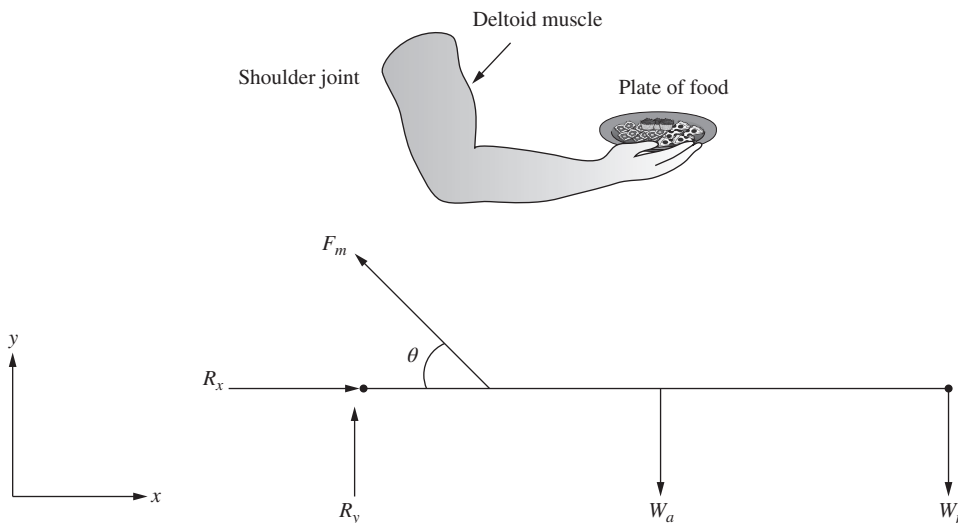

Figure P4.40 Waiter handing a plate to a customer.
4-40. A waiter extends his arm to hand a plate of food to his customer. The free-body diagram is shown in Fig. P4.40, where
- (a) Using the x - y coordinate system shown in Fig. P4.40, write the deltoid muscle force \vec{F}_m , the weight of the arm \vec{W}_a , and the weight of the plate \vec{W}_p in the standard vector notation (i.e., using unit vectors i and j).